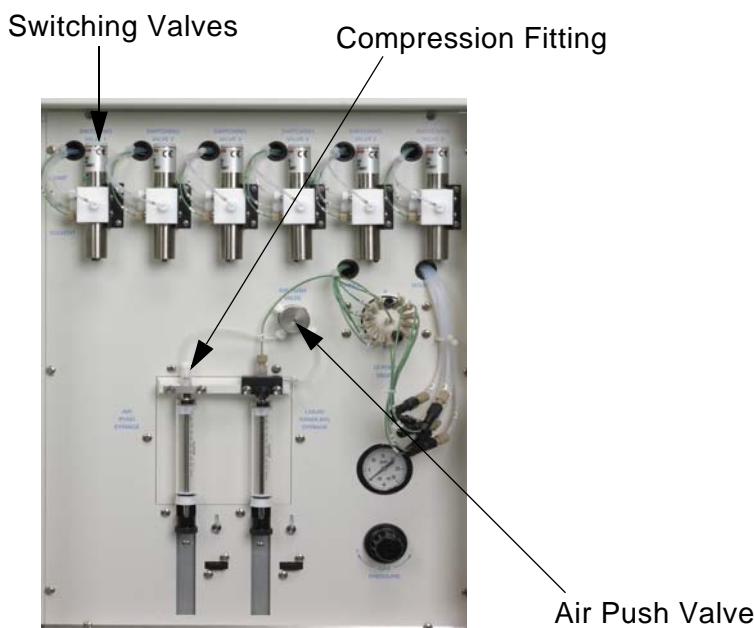

Figure B-13. Dionex AutoTrace 280 Left-Side View
1. Open the left-side door and locate the compression fittings on the switching valves, air push valve, and syringes (see Figure B-13).